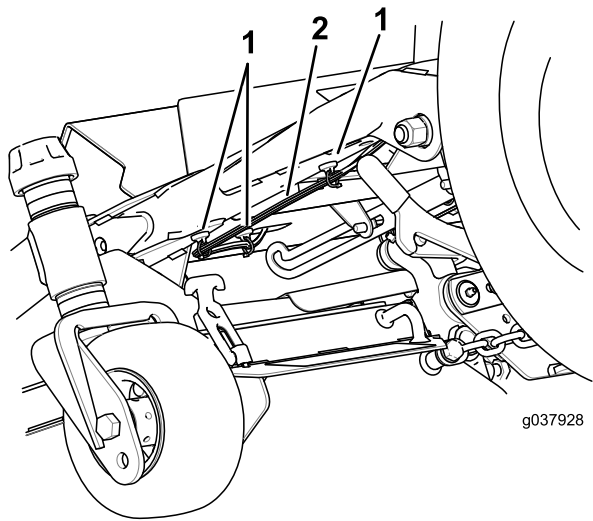

Figure 16
4. Use the magnetic holders shown in Figure 16 to secure the wire harness.